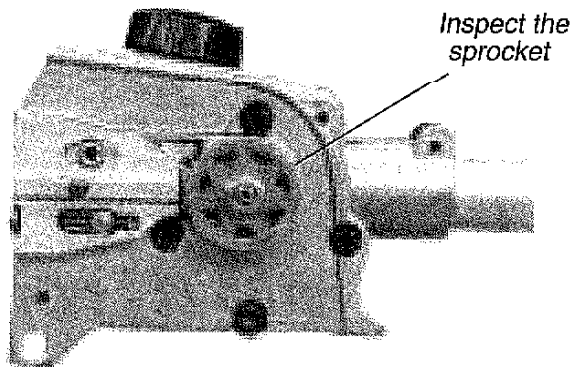

Figure 17
- Remove the sprocket cover and inspect the sprocket for excessive dirt, debris, or wear. Remove the guide bar and clean out the guide bar groove. If the sprocket is excessively worn, replace it with a new one. See Figure 17.